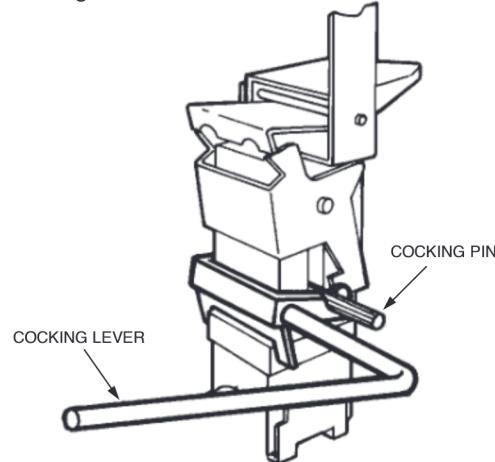

FIGURE 27
- 14. Insert cocking lever (Part No. 14995) on left side of the regulated release mechanism, with the movable flange resting securely against the corner of the cartridge receiver and spring housing, and with the notched lever portion engaging the cocking pin on **both** sides of the regulated release mechanism. See Figure 27.